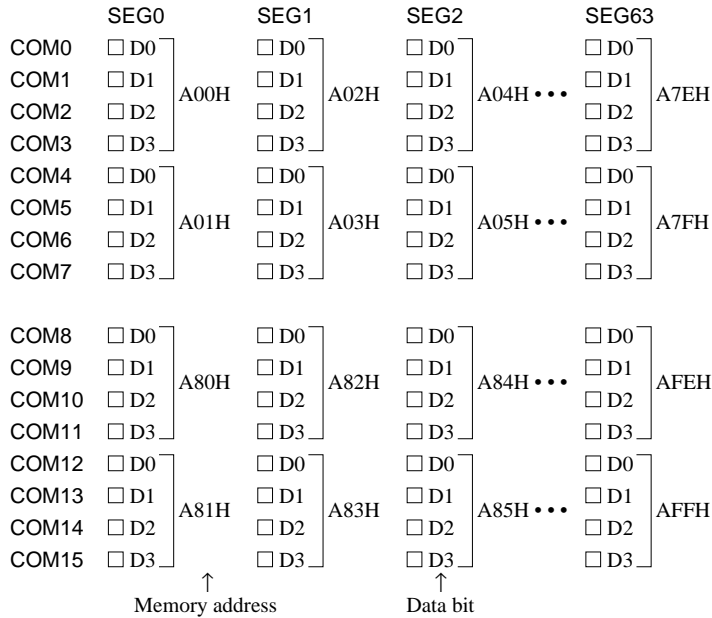

Fig. 4.8.5.1 Correspondence between display memory and LCD dot matrix
The display memory is allocated to page 0AH (10) in the data memory area and the addresses and the data bits correspond to COM and SEG outputs as shown in Figure 4.8.5.1.